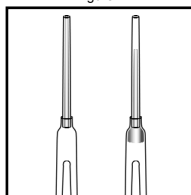

Figure 3
5. **Required for R-7002D only:** Pull the VACUette into a vertical position. A small portion of the collected sample should fall into the sleeve of the VACUette tip (fig. 3).